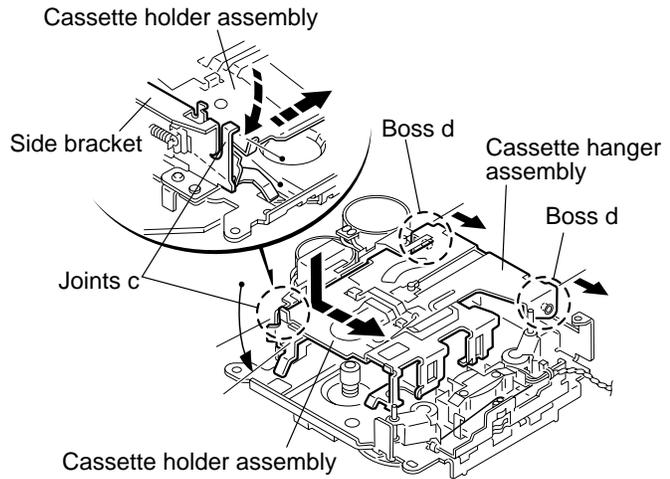

Fig.4
■ **Removing the cassette hanger assembly / cassette holder (See Fig.4 to 7)**